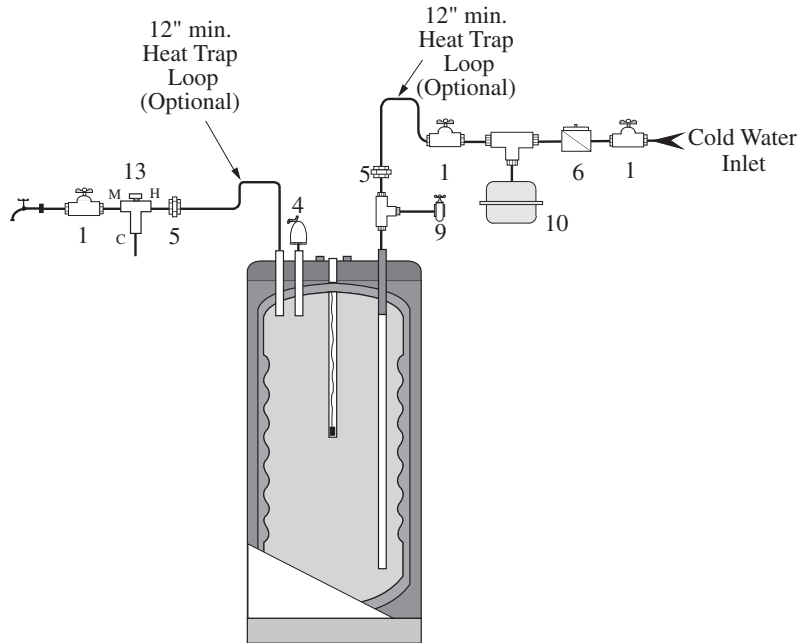

Figure 3.1: Peerless® Partner® Recommended Installation: Domestic Water Piping
- a. Install a tee connection at the domestic cold water inlet (Fig. 3.1 and 3.2).
1. For domestic water piping diagrams, see Figures 3.1 through 3.4.
- Each tank should be piped with a drain as shown in Figure 3.1.
- Each tank should be piped with a drain as shown in Figure 3.1